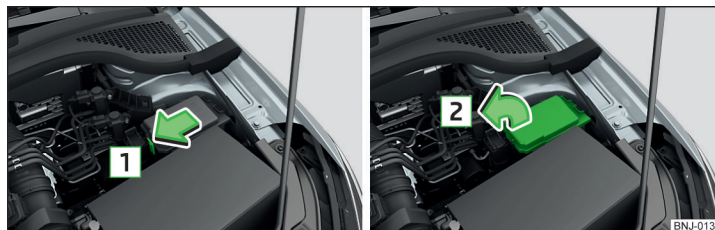

Fig. 283 Remove the cover
- Press together the lock buttons of the cover simultaneously in the direction of arrow and remove the cover in the direction of arrow » Fig. 283.